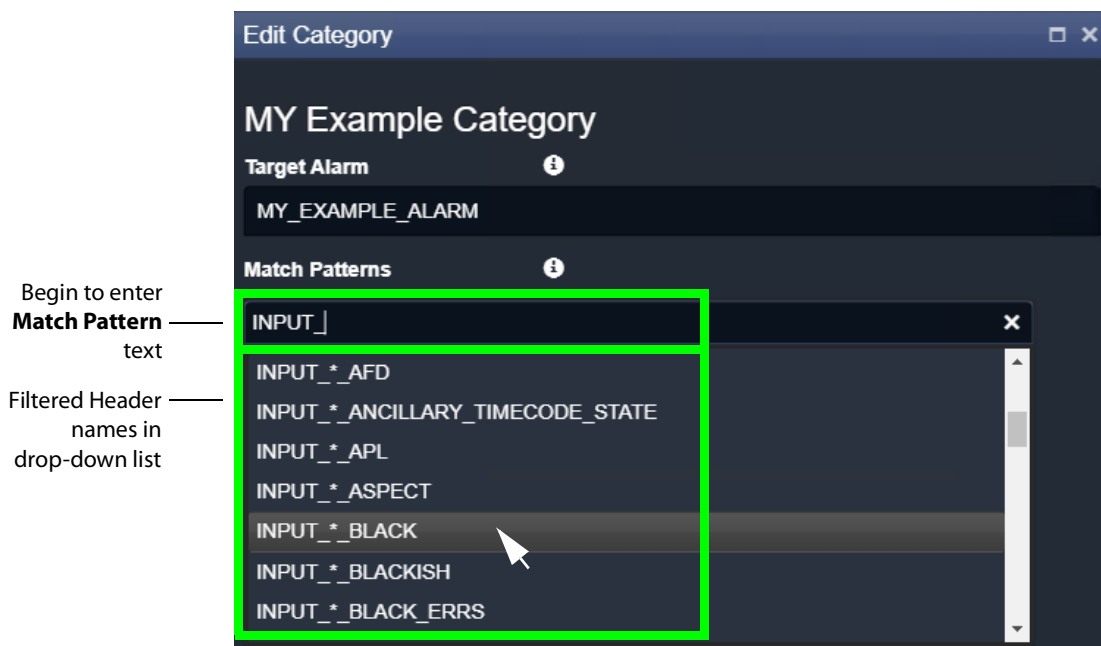

Figure 50: Select a Match Pattern From Drop-Down List
- 2 In the **Match Patterns** text box, begin entering a message Header **Match Pattern** text string. For example, "INPUT_". As the text string is entered, a drop-down list appears showing all the candidate message Header names filtered on the entered text. See Figure 50.